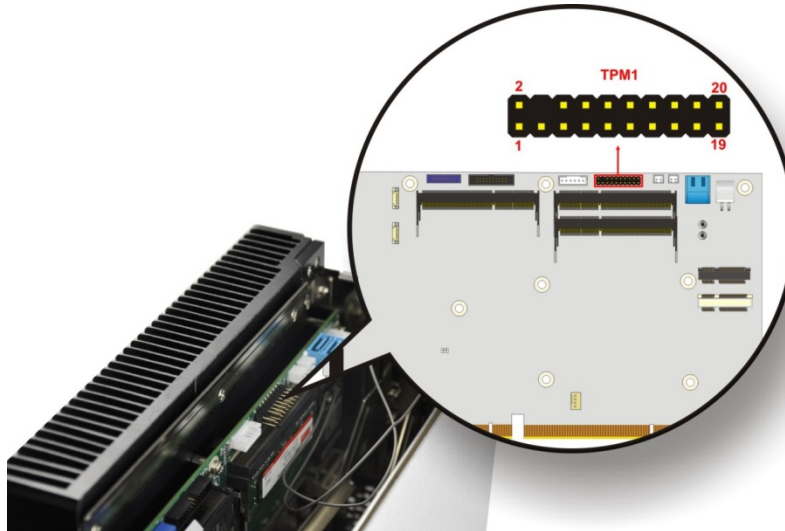

Figure 3-27: TPM Connector Location
Step 2: Locate the TPM connector. The location of the TPM connector is shown in **Figure 3-27**.
Step 4: Connect the iDP module to the DisplayPort connector on the motherboard. See **Figure 3-27**.